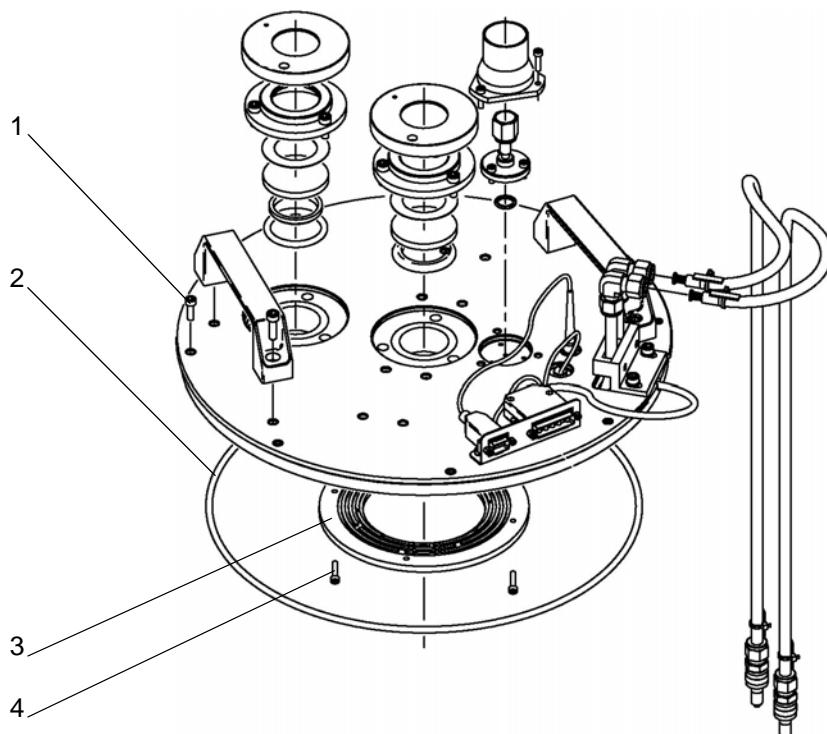

Figure 4.28 ICP Lid
4. Refer to Figure 4.28.
5. Remove the eight M5 x 16 screws (1) that fix the lid to the RF enclosure and remove the lid.
6. Remove and discard the O ring (2) from the underside of the lid.
7. Remove the four M4 x 12 screws (4) that fix the gas distributor plate (3) to the lid and remove the plate.